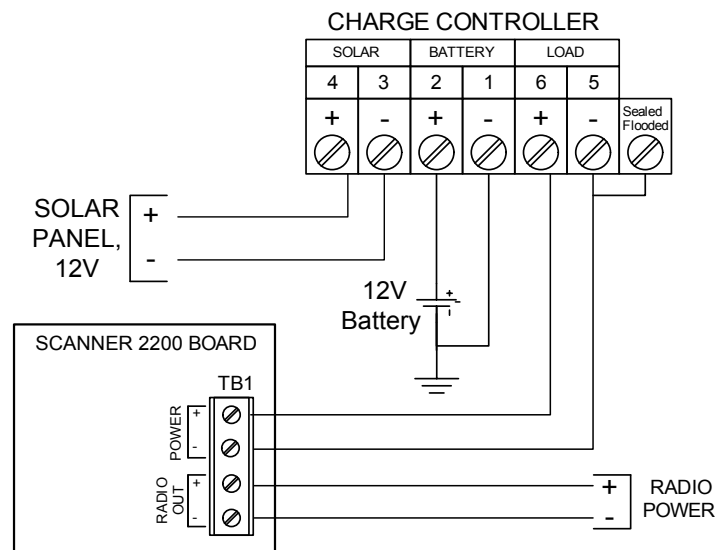

Figure 3.3—Solar power wiring
3. Connect wiring for external power to TB1, if appropriate. See Grounding Procedures, page 49, and see Figures 3.3 through 3.6, page 51 through page 54, for wiring diagrams for solar power and DC power.
To install the solar charge controller, follow the procedure below and reference Figure 3.3 for terminal locations. As shown in Figures 3.3 and 3.4, the terminals on the solar charge controller are numbered 1 through 6 to indicate the order in which connections should be made. The power supply wiring is connected to terminal block TB1 on the circuit assembly.
1. Remove the TB1 plug from the circuit board (as shown in Figure 3.3).